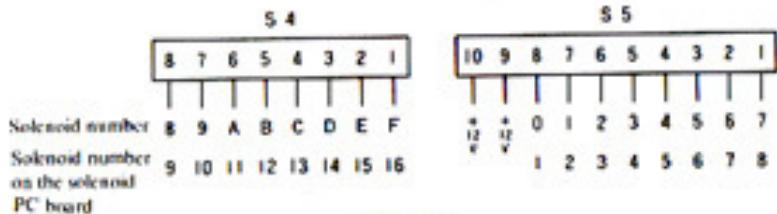

Figure 9-2
- ② Check the resistance between pin 9 or 10 of the S5 connector and the pin of the connector which corresponds to the unenergised armature. (Refer to figure 9-2. In picture 9-1, there is a problem in pin 10 of S5 or pin 9 and pin 4 of S4). Resistance should be within 140 - 150 Ω. If it is not, there is a problem, which may be found with the check given below. If no problem is found in the resistance values, perform the check given in 9.5.